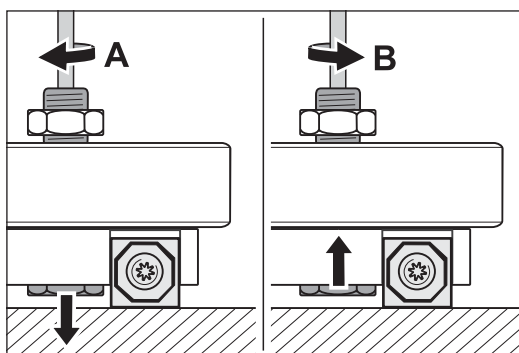

Fig. 41 Use the TORX screwdriver to adjust the adjustment screw.
- 4 Use the TORX screwdriver to adjust the adjustment screw. The indexable insert should be mounted in such a way that you can check the setting (fig. 41).